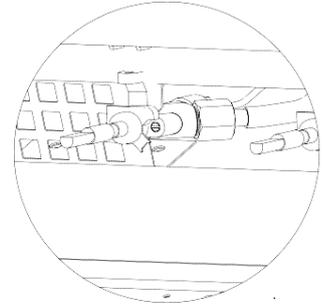

Figure 7
3.3.2 Open Top Bypass Screw - To Replace (Refer to Figure 7)